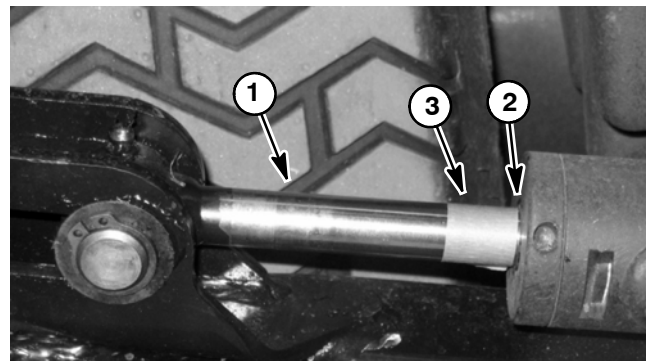

Figure 50
6. Mark the position of the lift cylinder rod at the lift cylinder head with a piece of tape (Fig. 50).